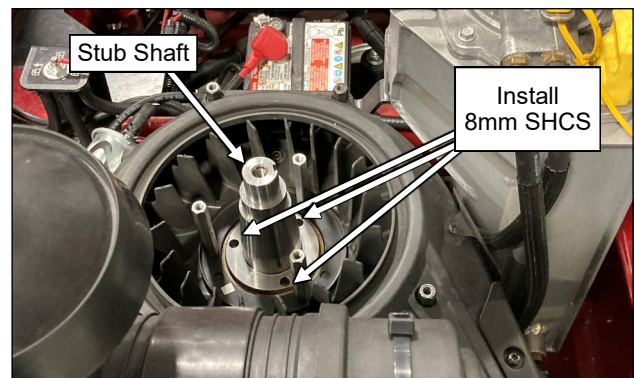

Fig. 1.4 (Install stub shaft)
- 1.4 See fig. 1.4. Install stub shaft onto the top of the engine crankshaft with three 8mm socket head cap bolts and split lock washers and tighten hardware to 20 ft-lbs. (27.2 N-m)..